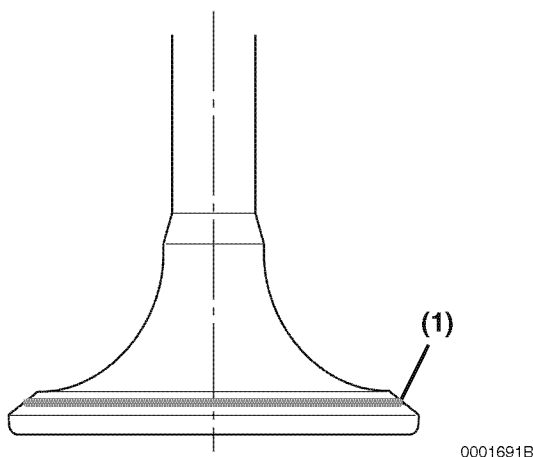

Figure 6-20
Coat the valve seat with a thin coat of bluing compound. Install valve and rotate to distribute bluing onto the valve face. The contact pattern should be approximately centered on the valve face (**Figure 6-20, (1)**) and even in width.